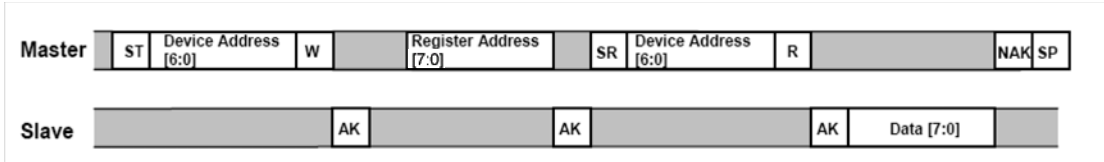

Figure 7. Single Byte Read - The Master is reading one address from the MMA7456L
The MMA7456L has a 10-bit ADC that can sample, convert and return sensor data on request. The transmission of an 8-bit command begins on the falling edge of SCL. After the eight clock cycles are used to send the command, note that the data returned is sent with the MSB first once the data is received. Figure 7 shows the timing diagram for the accelerometer 8-bit I²C read operation. The Master (or MCU) transmits a start condition (ST) to the MMA7456L, slave address (\$1D), with the R/W bit set to "0" for a write, and the MMA7456L sends an acknowledgement. Then the Master (or MCU) transmits the 10-bit address of the register to read and the MMA7456L sends an acknowledgement. The Master (or MCU) transmits a repeated start condition (SR) and then addresses the MMA7456L (\$1D) with the R/W bit set to "1" for a read from the previously selected register. The Slave then acknowledges and transmits the data from the requested register. The Master does not acknowledge (NAK) it received the transmitted data, but transmits a stop condition to end the data transfer.